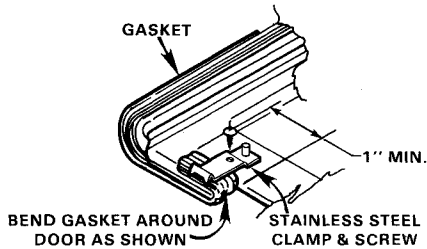

Figure 9
- Pull each end of gasket tightly downward and wrap around door with 1-inch minimum overlap as shown in Figure 9.
- Install a stainless steel clamp on door guard pin at each end and fasten in place with screws furnished. See Figure 9.